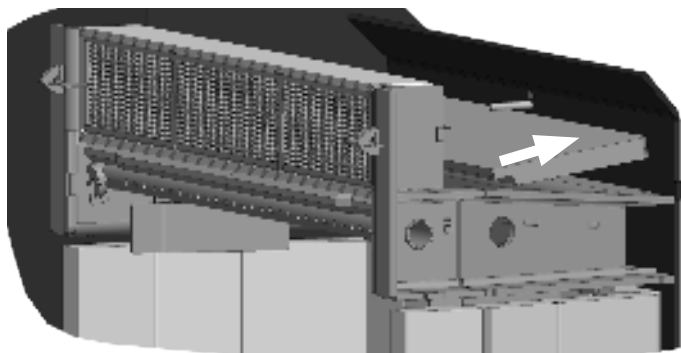

Figure 5.7. Rest the rear baffle on the back of the firebox
1. Open door and lift rear baffle up and slide back to rest it on top of rear manifold member Fig. 5.7.